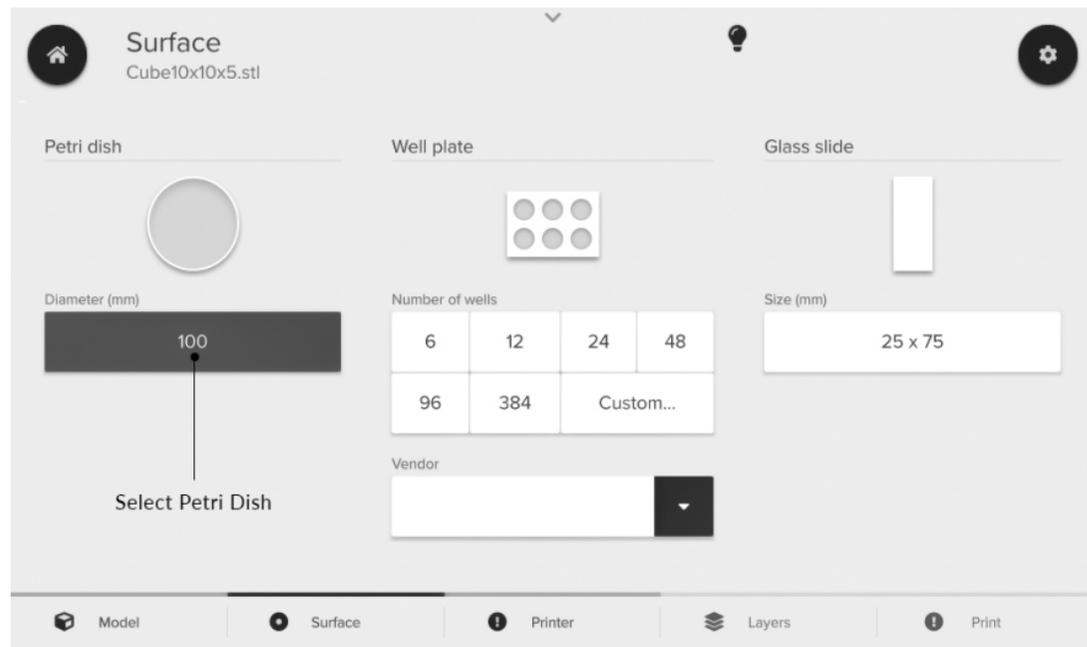

Figure 13: Select a print surface from the Surface menu.
5. Select a surface to print on. Proceed to the next menu (Figure 13).